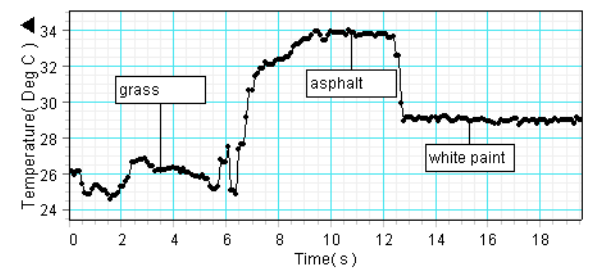

Figure 4: Various ground surfaces
- Measure the temperatures of various outdoor ground surfaces (Figure 4).